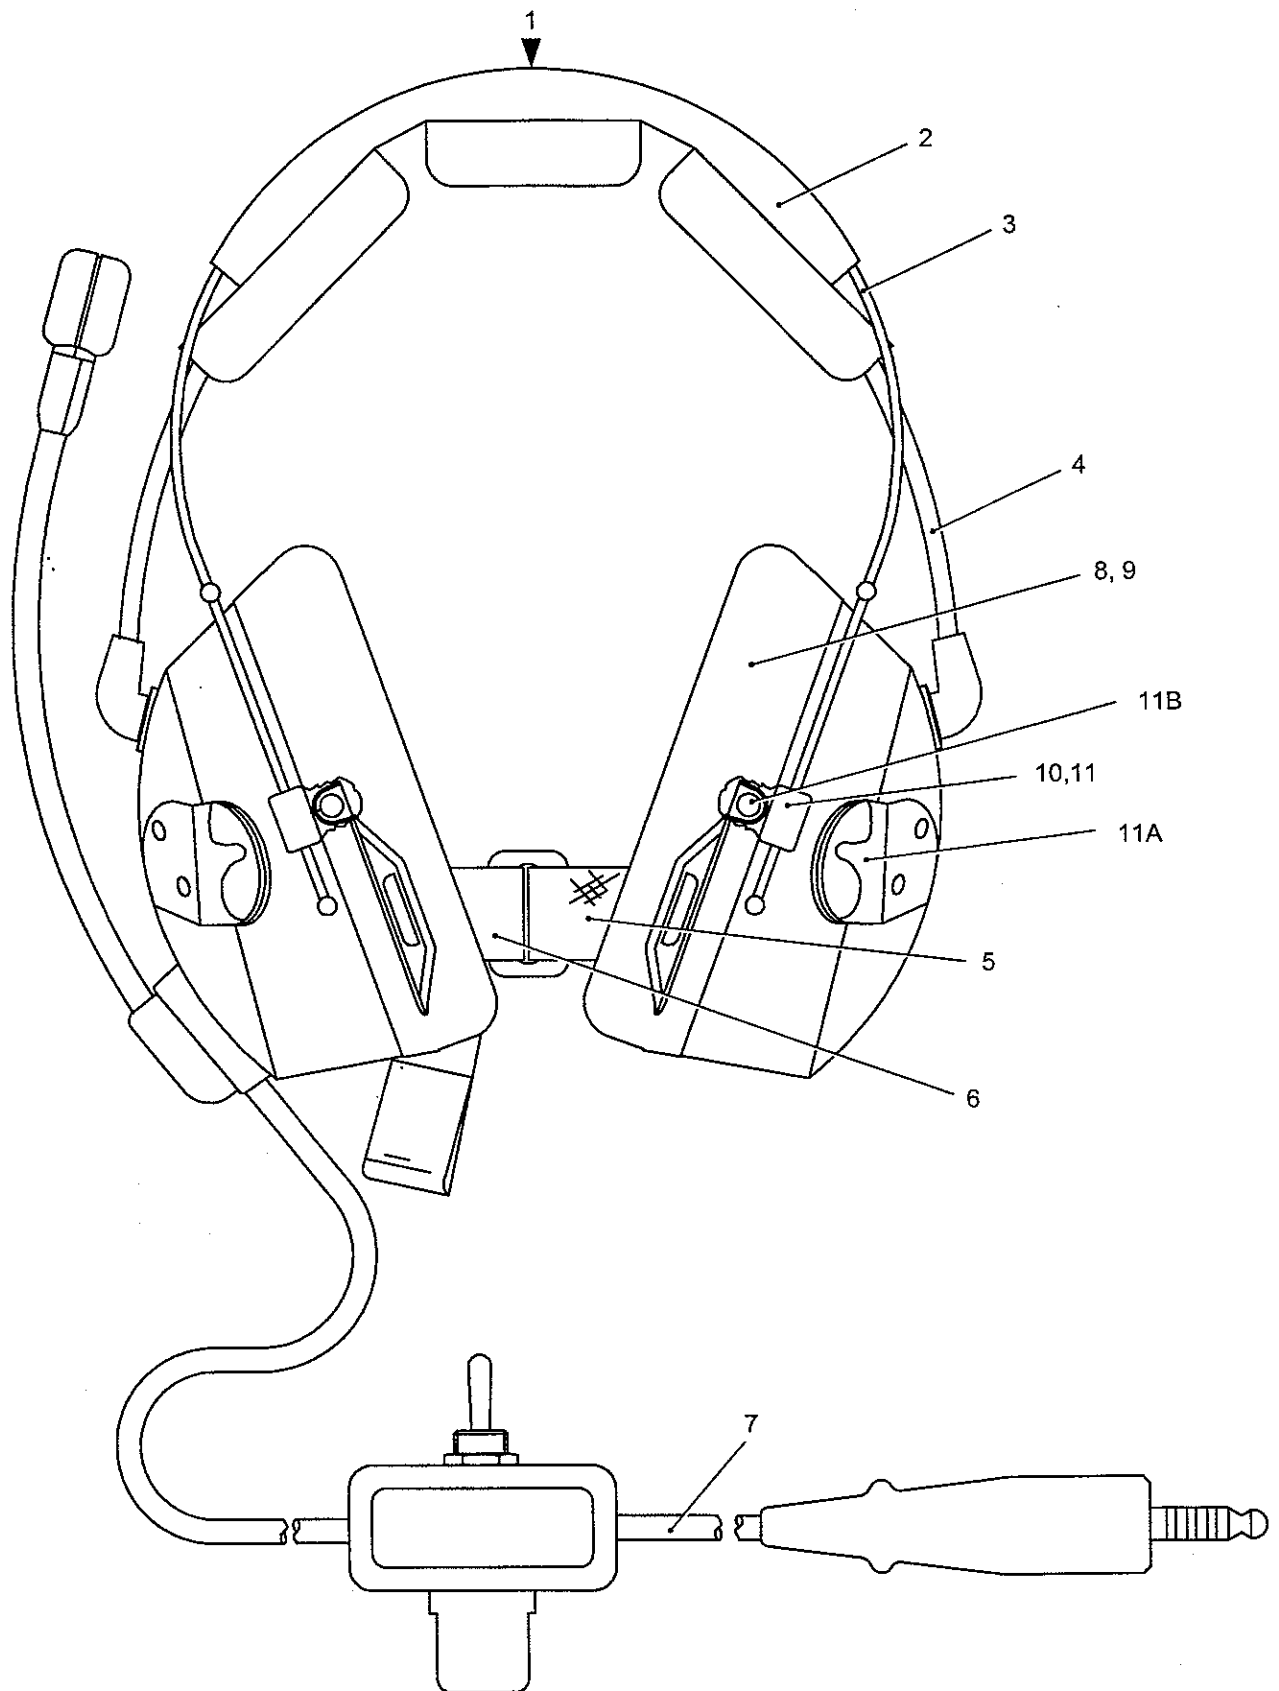

Fig 3 Headset Supergard - front view
- 23.3 Refer to Fig 3. Fit the disc (18) and the acoustic filter (19).
- 30.1 Refer to Figs 3, 4 and 5 and remove the neckstrap (6) as detailed in Para 10.
- 30.14 Discard the earshell (17) complete with the lugs (11), anti-friction sleeves (10) and the suspension hole plugs (11B).
- 31 To replace a boom side earshell, refer to Figs 3, 4 and 5 and proceed as follows.
- 31.1 Remove any traces of the gasket from the platform (27).
- 31.10 Refit the neckstrap (6) as detailed in Para 11.
- 32.1 Refer to to Figs 3, 4 and 5 and remove the neckstrap (5) from the earshell.
- 32.11 Discard the earshell (28) complete with the lugs (11), the antifriction sleeves (10) and the suspension hole plugs (11B).
- ▶ 33 To replace a non boom-side earshell, refer to Figs 3, 4 and 5, and proceed as follows.
- 33.1 Remove all traces of gasket from platform (37).